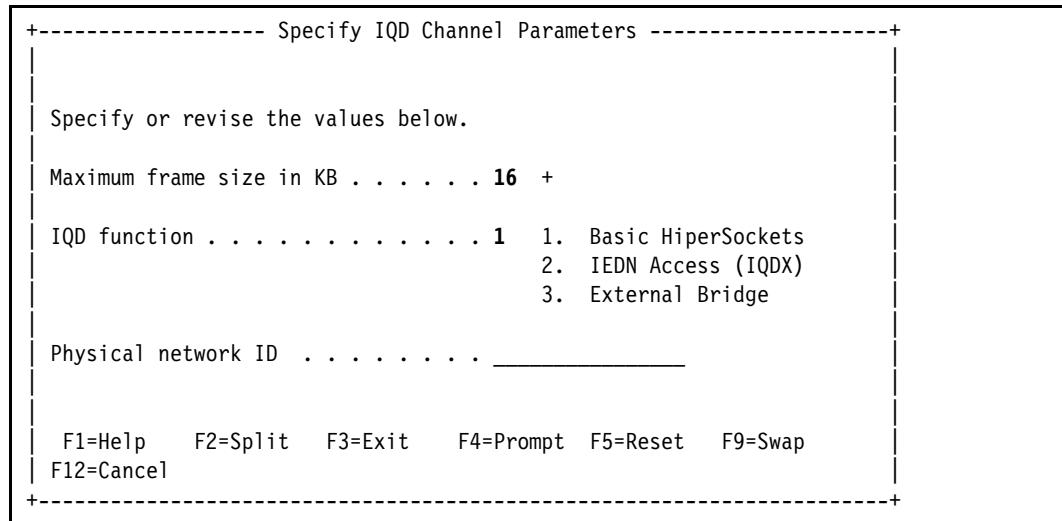

Figure 13-58 Processors: Specify IQD Channel Parameters, IQD
- Leave the default option of 16 for the Maximum frame size and select Option 1 (Basic HiperSockets) for the IQD function Figure 13-58. Press **Enter**.